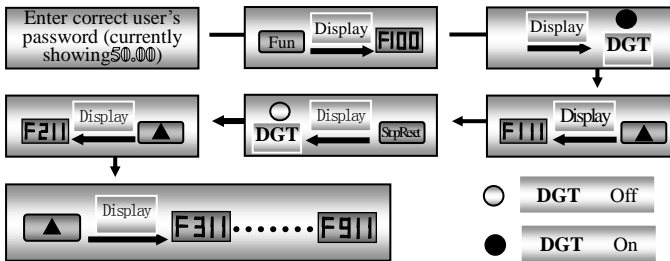

Fig 2-2 Switchover in a Code Group or between Different Code-Groups
e.g. when function code shows F111 and DGT indicators on, press “▲”/ “▼” key, function code will keep increasing or decreasing by degrees within F100~F160; press “stop/reset” key again, DGT indicator will be off. When pressing “▲”/ “▼” key, function codes will change circularly among the 10 code-groups, like F211, F311...FA11, F111..., Refer to Fig 2-2 (The sparkling “50.00?” is indicated the corresponding target frequency values).